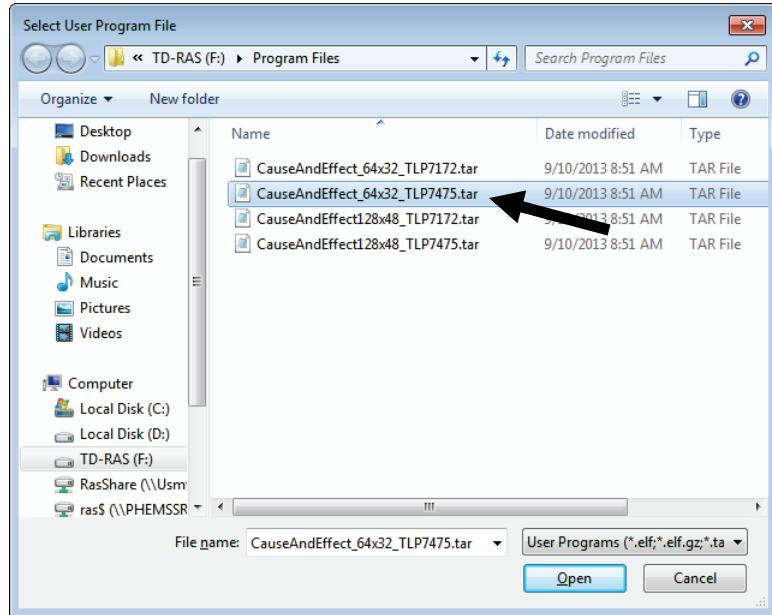

Figure 4. Select User Program File
4. Click **Browse** in the Download User Program File frame. The Select User Program File screen displays (see *Figure 4*).
5. Select the path and user program file to download from the CD-ROM. (Program files are typically located in the Program Files folder on the CD-ROM). As *Figure 4* shows, the screen lists all valid user program files with the **.tar** extension: